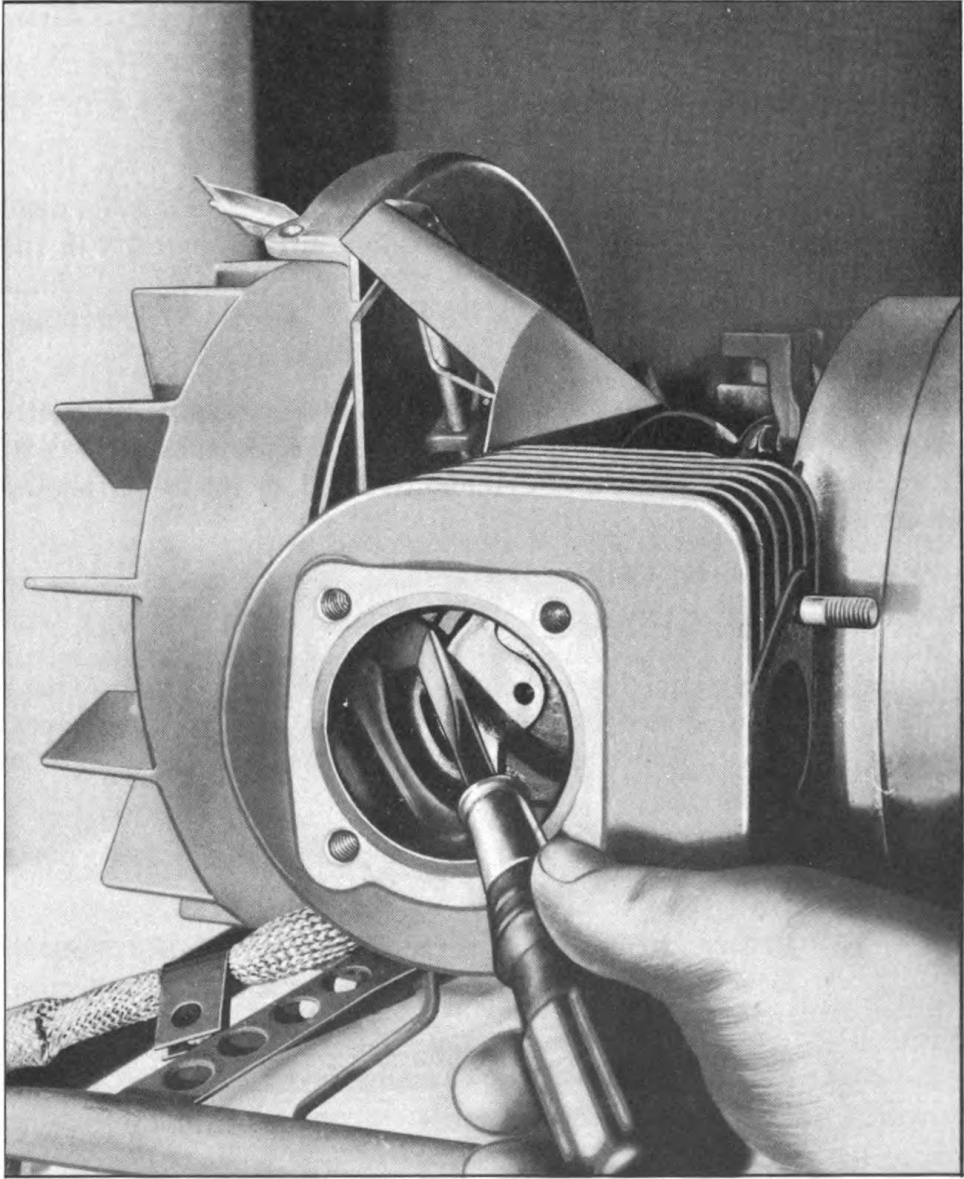

FIG. 14—CARBON REMOVAL—INTAKE PORTS
(1) Remove the fan housing (1).
(2) Remove cylinder head (97).
(3) Scrape off carbon and lead deposits from cylinder head, inside of cylinder and top of piston. A screw driver, knife or other similar instrument should be used.
(4) Remove carbon and lead deposits from intake ports with screw driver (See Fig. 14, Page 29).
(5) Before reassembling the cylinder head make sure all loose particles of carbon and lead are removed from the engine.